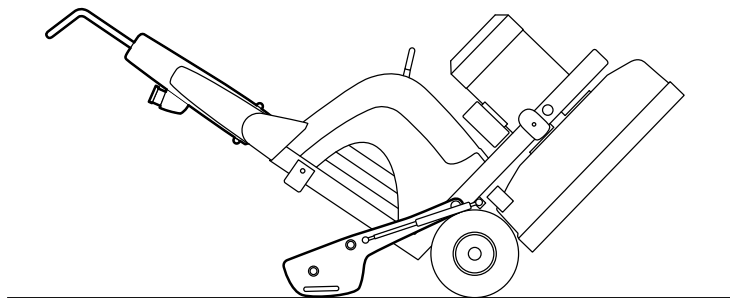

Figure 4-7 Fold back
3. Tip the machine backwards carefully, until the weights reach the floor, see Figure 4-7 on page 20.